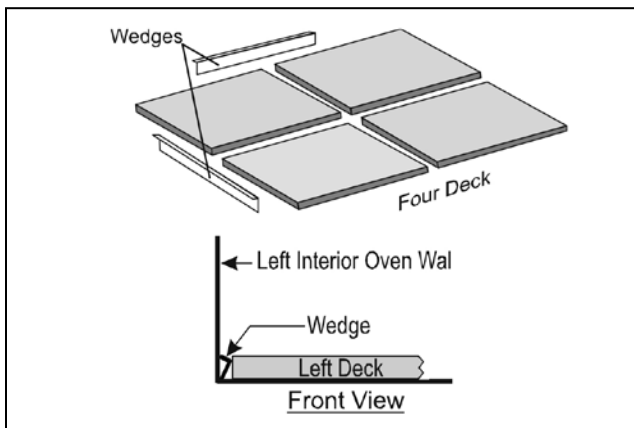

Figure 9
- Use wedges in the back and on the sides of the deck if the slabs are loose. The four decks should be tight against each other with no gap between them (See Fig. 9).